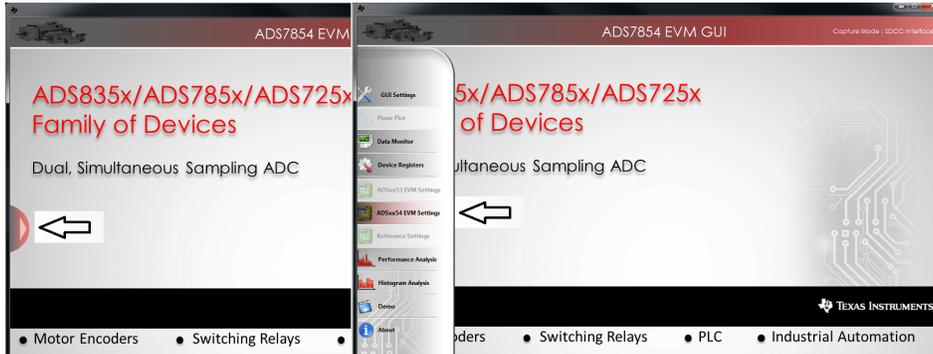

Figure 15. Open the ADSxx54EVM Settings Page
1. Load the ADSxx54 EVM settings page in the GUI. Hover the cursor over the red arrow at the left-center side of the GUI screen; a menu with different GUI pages appears. Click on *ADSxx54 EVM Settings*, as shown in Figure 15.